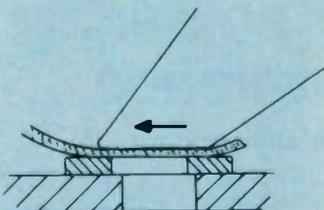
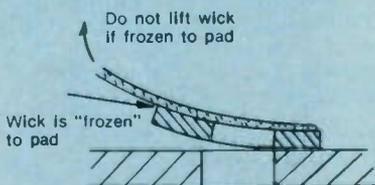

Figure 6 Excessive side pressure with a tip can break heated pad loose from the circuit board surface.
Figure 7 Tearing of the pad from board surfaces will result if wick is allowed to cool and stick to pad.
pad, tending to drive it into the hole as shown in Figure 5B; (2) Any movement of the pad will break the adhesion bond. Excessive side pressure of the tip as shown in Figure 6 can also cause immediate slippage of the pad; (3) Finally, as shown in Figure 7, if the wick is left too long